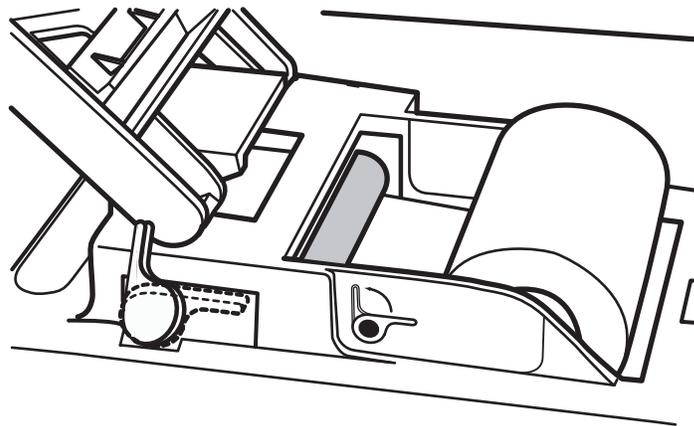

Figure 7-8: Installing Paper Roll
15. Ensure that the paper dispenses from the bottom of the roll, as shown below. (See "Figure 7-8: Installing Paper Roll".)
4. Remove the four plastic screws from the corners of the Blood Pressure (BP) Board (see Figure 7-8). A plastic spacer is positioned at each screw point, between the circuit board and the metal bracket. Retain the plastic spacers for board installation.